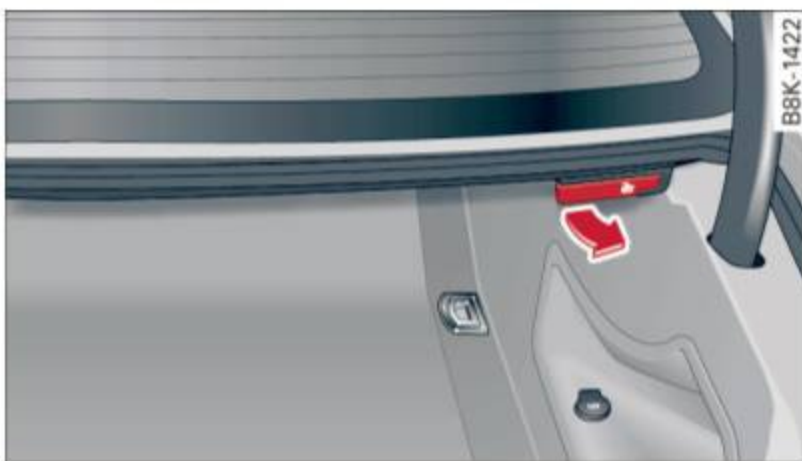

Fig. 64 Luggage compartment: release lever
- ▶ Pull the release lever ⇒ *fig. 64* in the direction of the arrow to fold the backrest forward.